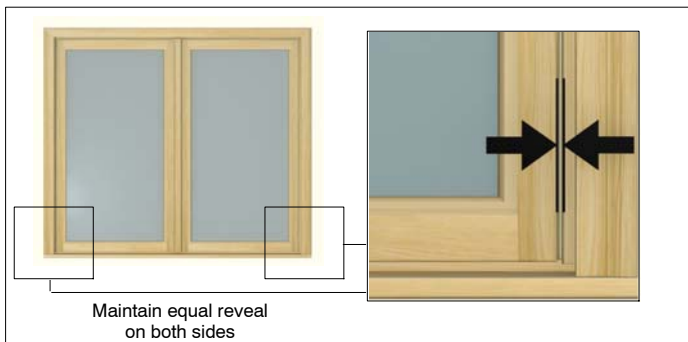

Figure 3
NOTE: When adjusting hinges, try to maintain an equal reveal on both sash as shown in figure 3.
1. Place 3/8" adjustment wrench between hinge arm and hinge track as shown in figure 3. Clockwise movement will move sash away from jamb and counter-clockwise movement will move sash towards jamb as shown in figure 4.